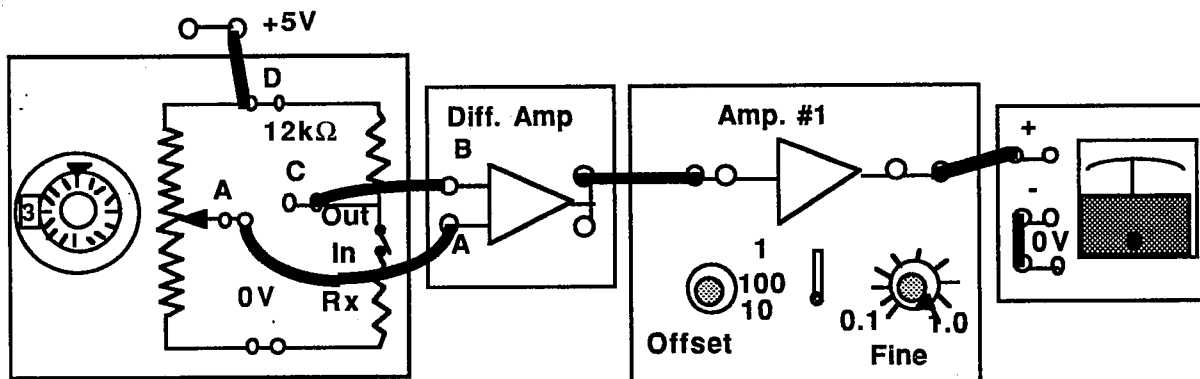

Figure 22
Fig 22 shows the complete circuit diagram required for the exercise.
- With the switch on the Wheatstone bridge circuit set to IN, thus connecting in circuit the unknown resistor, set the amplifier #1 "coarse " control to 10 and then connect the circuit as shown in Fig 22.